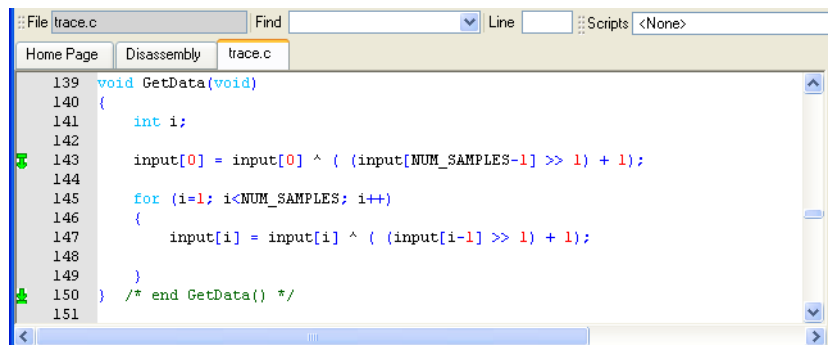

Figure 10-38 End of Excluded Trace Range set at line 151
- e. Click **OK**. The dialog box closes, and the End of Excluded Trace Range tracepoint is set as indicated by the green arrow . Figure 10-38 shows an example: